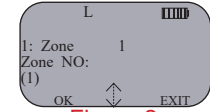

Figure 2
- Press the UP/Down keypad keys to desired zone and press the "OK" softkey. (See Figure 2)